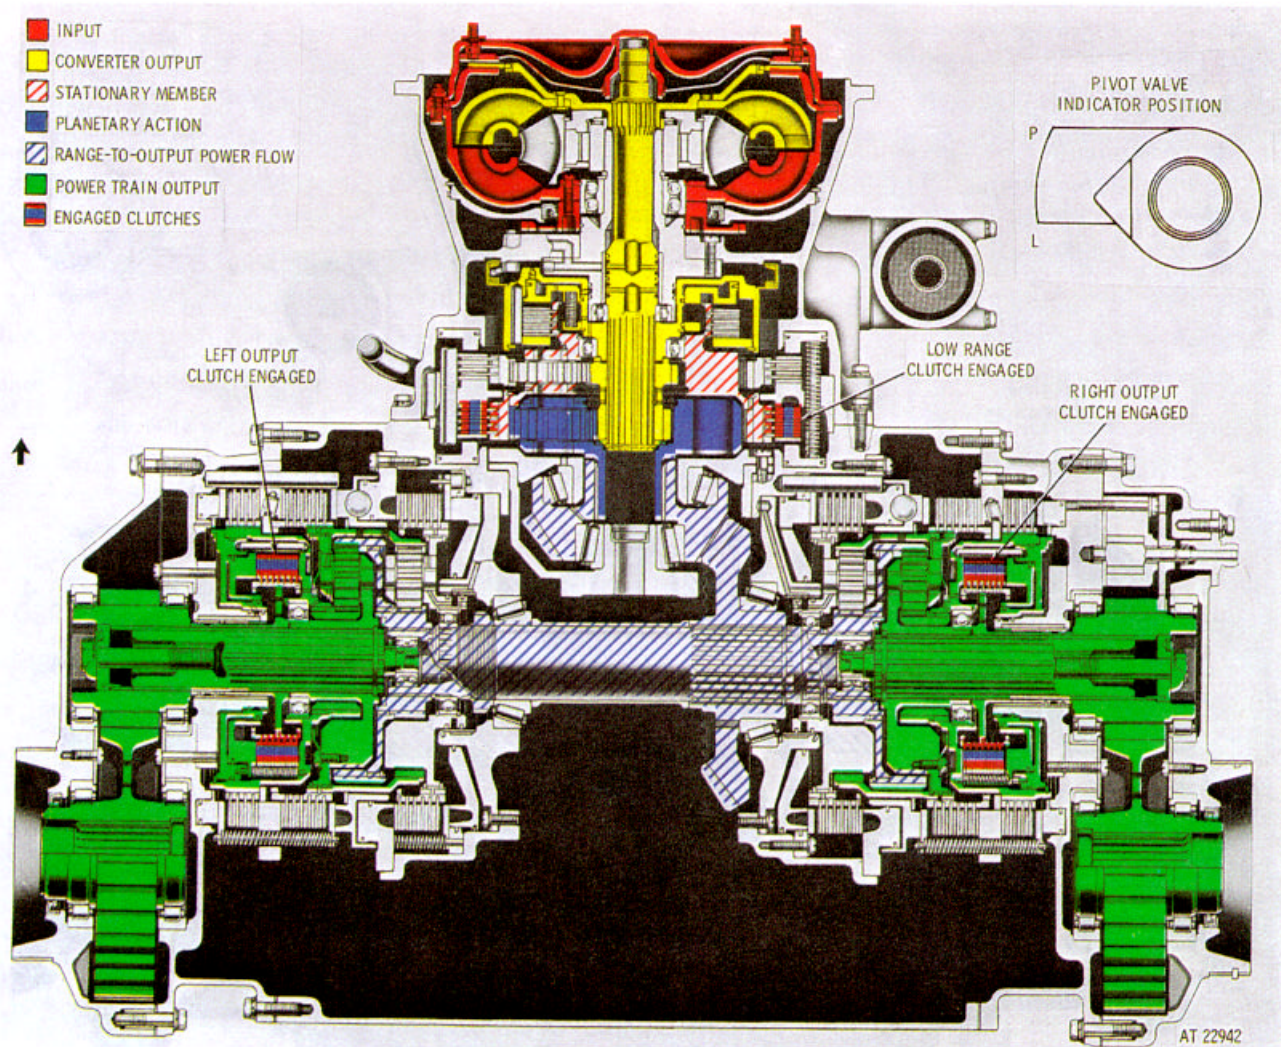

Figure 2-16. Second gear, straight travel operation-torque path
(3) The geared steer clutches are engaged and hold the steer sun gears stationary. The steer planetary ring gears are attached to the cross shaft and are the driving members. The rotating ring gears force the steer planetary pinions to rotate around the stationary sun gears which, in turn, drive the planetary carriers.
(4) The carriers are splined to the output shafts which, in turn, are splined to the output reduction transfer drive gears. The total mechanical speed reduction ratio from the engine through the transmission outputs is 19.832 to 1. At output stall, the total torque ratio available (output-to-engine) is (2.6×19.832) 51.563 to 1.
b. Second Gear-Straight Travel (fig. 2-16).